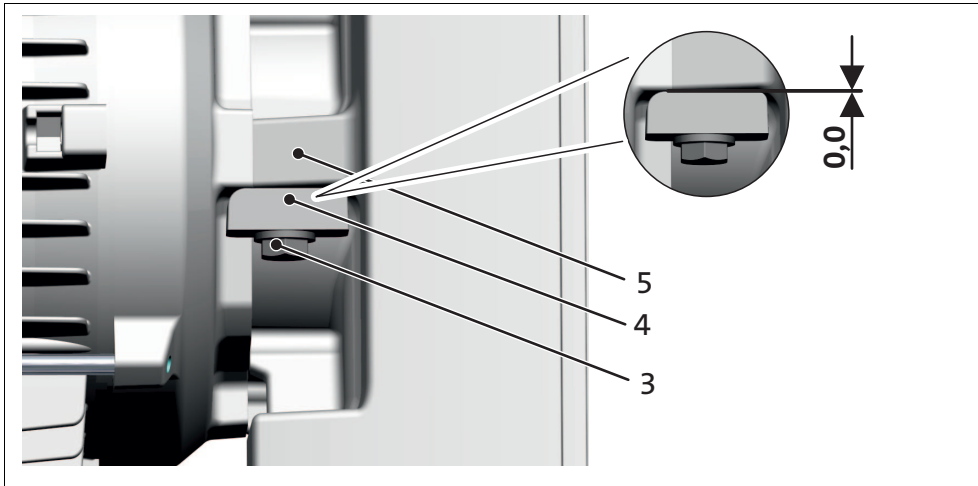

Fig. 5 Mounting on the opposite side (limit position of cam is flush)
2. Tighten the securing screw until the securing cams of the gearbox housing and motor are flush with the retaining clip, Fig. 5.